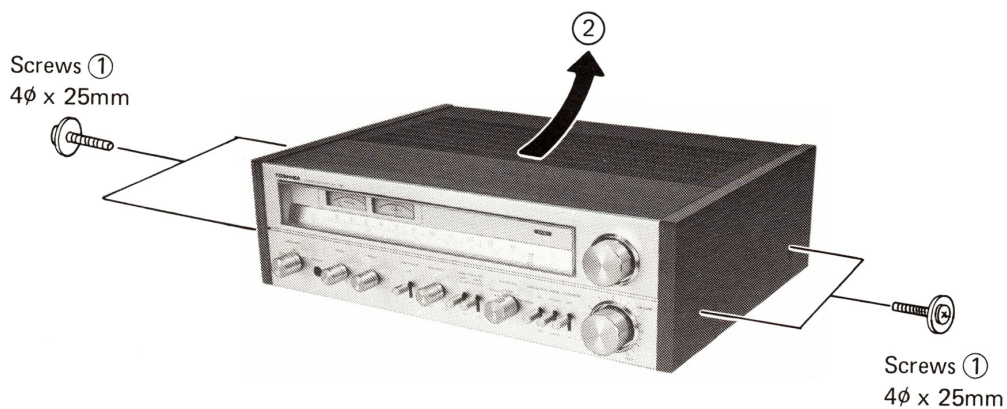

Figure 3
1. Remove 4 screws ①. See figure 3.
2. Open the Cabinet in the direction ②.
1. Remove the Cabinet. See figure 3.